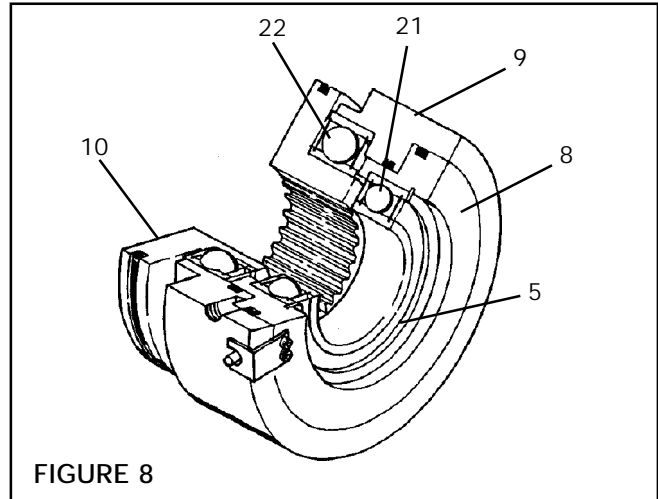

FIGURE 8
6. Replace Retaining Ring (Item 5) (See Fig. 8).